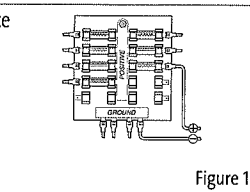

Figure 1
- 1a. If a fuse terminal is available, use crimp-on type electrical connectors (not included) that match the terminal on the fuse panel. Attach the black wire to ground (-), and the red wire to positive (+) 12 VDC power (Figure 1). Use a 1 Amp fuse in the connection (not included).